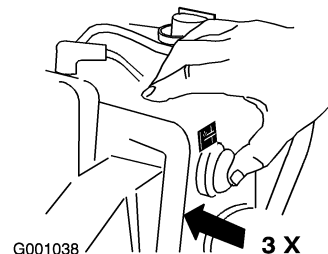

Figure 23
6. Firmly push in the primer 3 times with your thumb, holding the primer in for a second before releasing it each time (Figure 23).